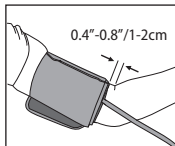

Fig. 5
7. The bottom edge of the cuff should be positioned approximately one inch above the elbow joint, *Fig 5*.